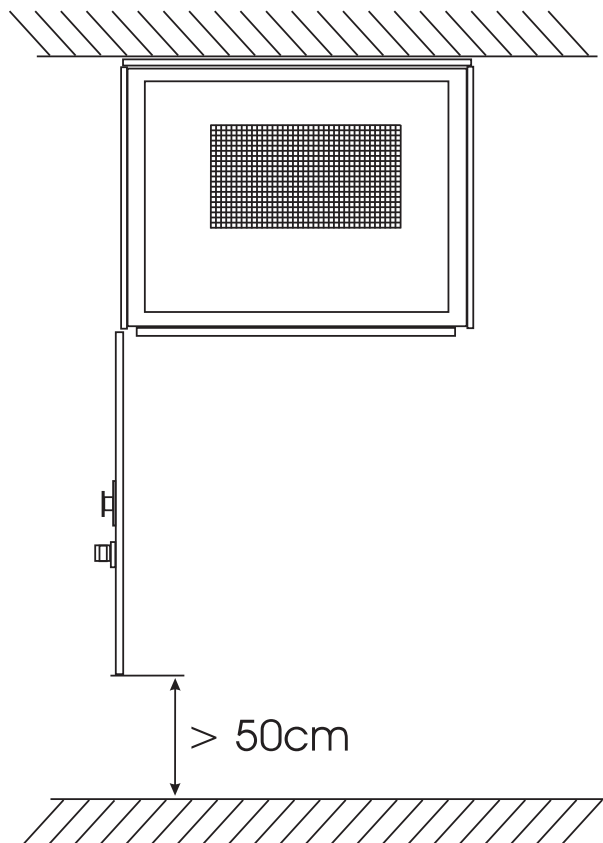

Figure 7
- See figure 7. With the door opened, there must be at least 50 cm space between the door and the wall facing the front side of the cabinet. This space is necessary in case of emergency evacuation.